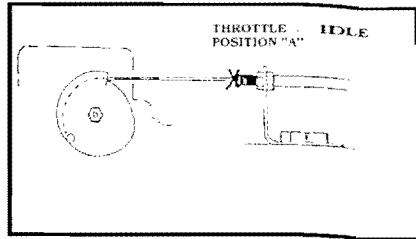

Figure 4
- Make a mark on the throttle cable when the throttle is in the idle position. **Figure 4**